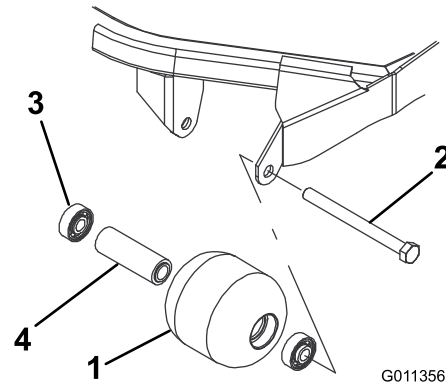

Figure 84
1. Remove the roller-mounting bolt (Figure 84).
4. Inspect the roller housing, bearings, and bearing spacer for damage (Figure 84). Replace any damaged components and assemble them.
1. Press the first bearing into the roller housing (Figure 84). Press on the outer race only or equally on the inner and outer race.
2. Insert the spacer (Figure 84).
3. Press the second bearing into the roller housing (Figure 84). Pressing equally on the inner and outer race until the inner race contacts the spacer.